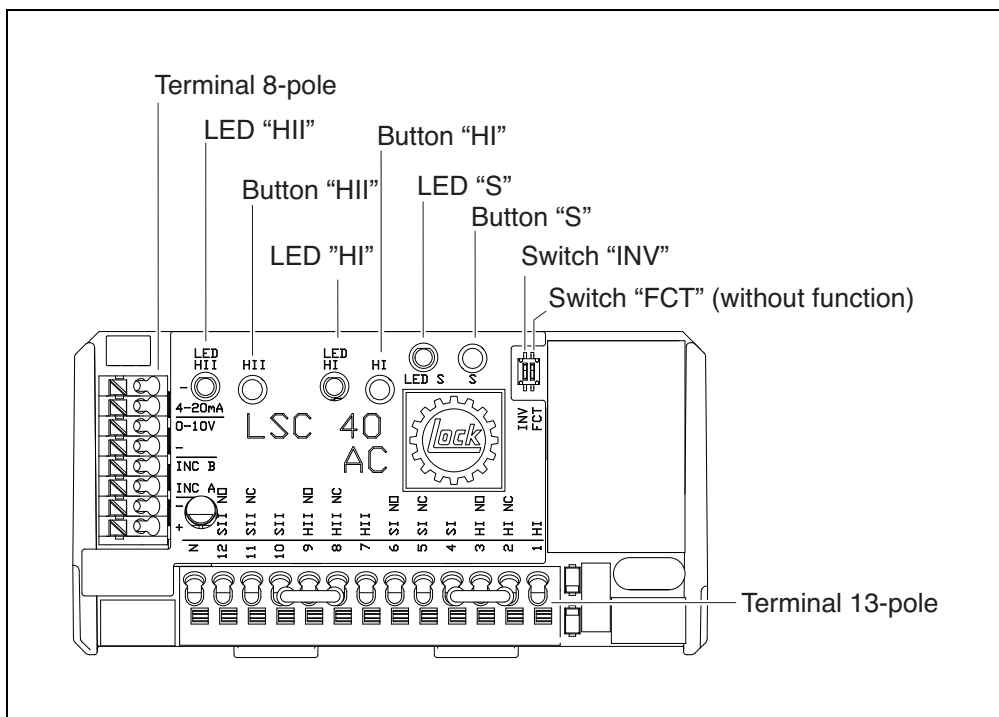

Fig. 29 Control unit LSC 40 AC (green cover board)
- AC version (see Fig. 29)
Information on Figures 29 and 30: